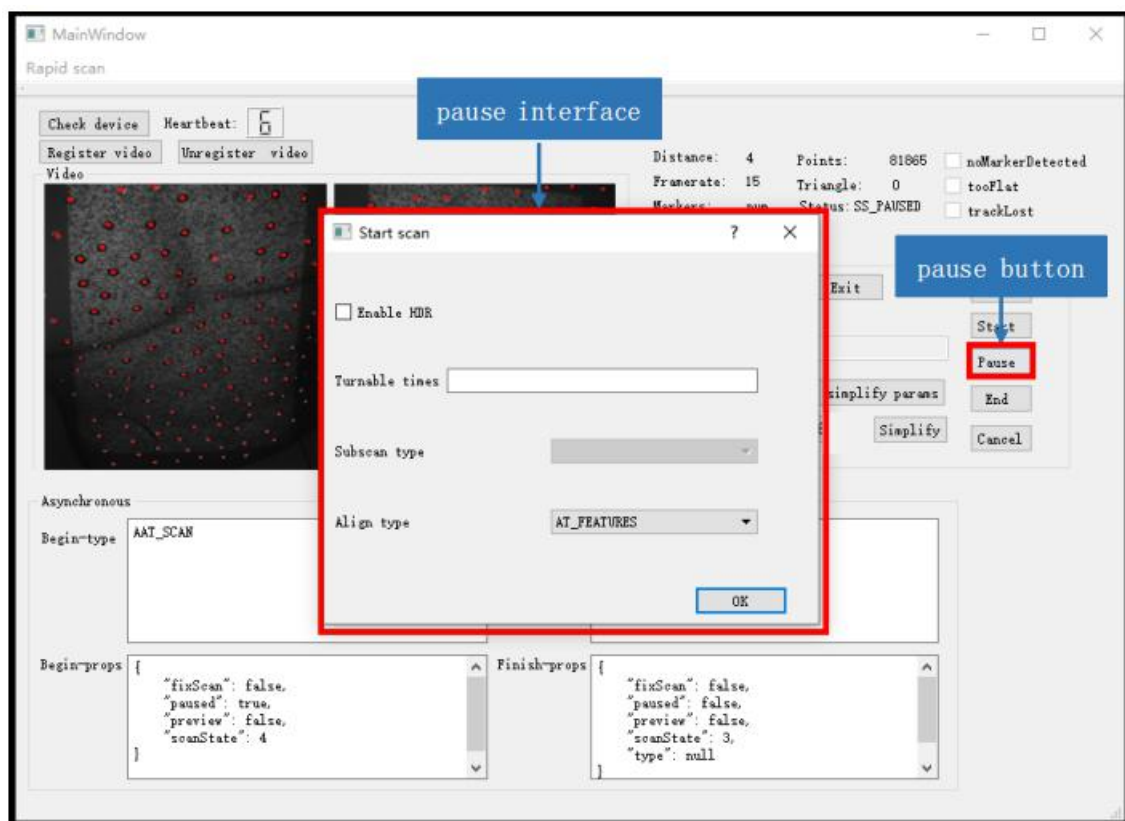

Figure 18 Pause the scanning interface
2、Click the "Pause" button to pause the scan, as shown in figure 18, the interface is consistent with figure 9. When the scan is paused and then the scan is continued, the "Pause" button can be clicked here, and when the "End" button is clicked, the scan ends.